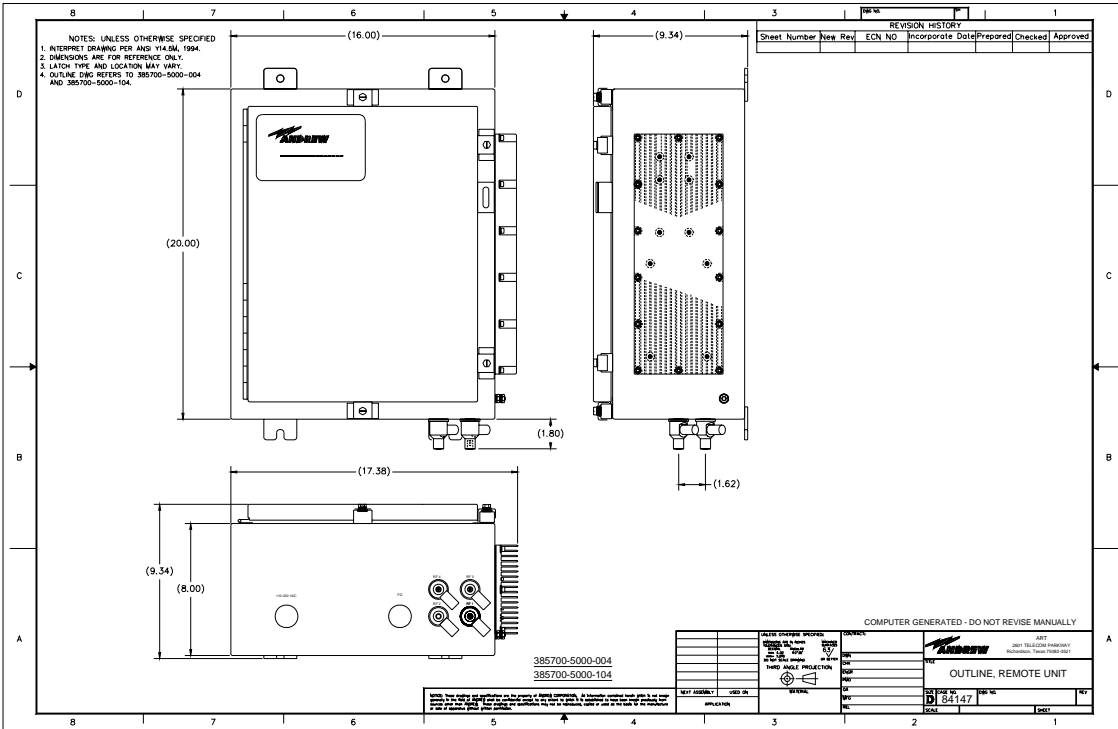

Figure 2-5. RFFAU Enclosure Diagram
The RFFAU is the EOCell™ component that is distributed within a building or tunnel to provide the RF signal interface to the portable and mobile radios. The RFFAU interfaces to antennas and/or leaky cable to transmit the downlink signal to the portable and mobile radios and to receive the uplink signal from the portable and mobile radios. Typical distributed antenna systems consist of multiple RFFAUs connected to the MFOTC. The RFFAUs are a NEMA 4X enclosure generally mounted on a wall. Reference figure 2-5 for the RFFAU diagram.
The RFFAU RF interface is through the Type N Connectors located on the bottom of the unit. All RF connectors pass RF downlink and uplink signals from the base station / base radio to the portable and mobile radios. The RFFAU is typically connected to an antenna, directional antenna or leaky cable. The RFFAU RF outputs may be configured for one (1), two (2), three (3) or four (4) RF outputs. Reference Figure 2-5 above for the RF port locations.
Reference Figure 2-5 for a drawing of RFFAU bottom panel. Figure 2-5 shows the fiber optic and AC input cable knockouts.
The RFFAU bottom panel may be equipped with one, two, three or four bulkhead RF connectors for multiple RF antenna ports. Reference Figure 2-5 above for the port locations.